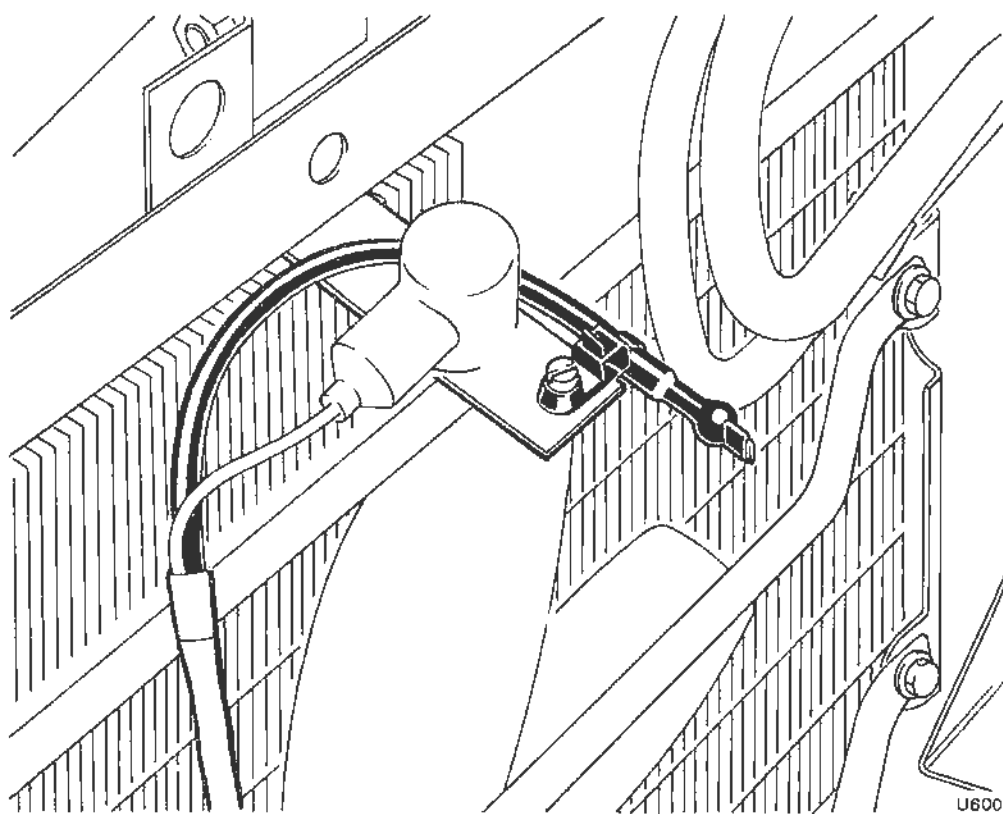

Fig. 2 Sensor in position
11. Remove the 7000 Ω resistance and fit the "new type" sensor using the original fixing screw and bracket (see Fig. 2).